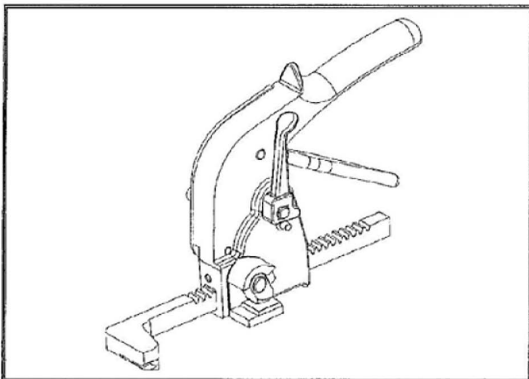

Figure 1
2. Pull strapping from cart and bring around load. Push seal on with flat side of seal facing outside of strap. (Figure 1)